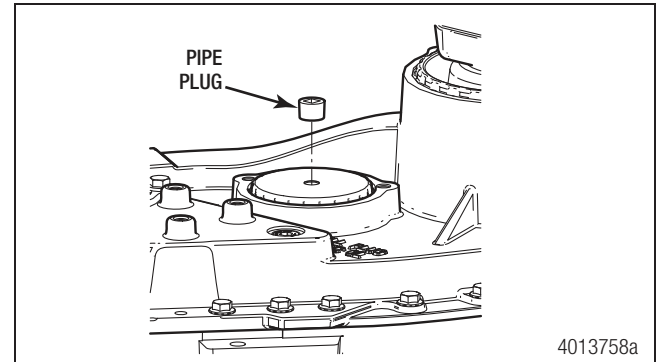

Figure 7.55
2. Remove the pipe plug at the shaft location on the rear case half. Figure 7.55.